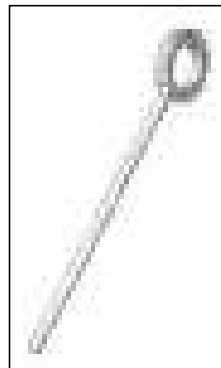

Fig. 1.10A
4. Clutch holder tool - N231 001 0 (Fig.1.10A)